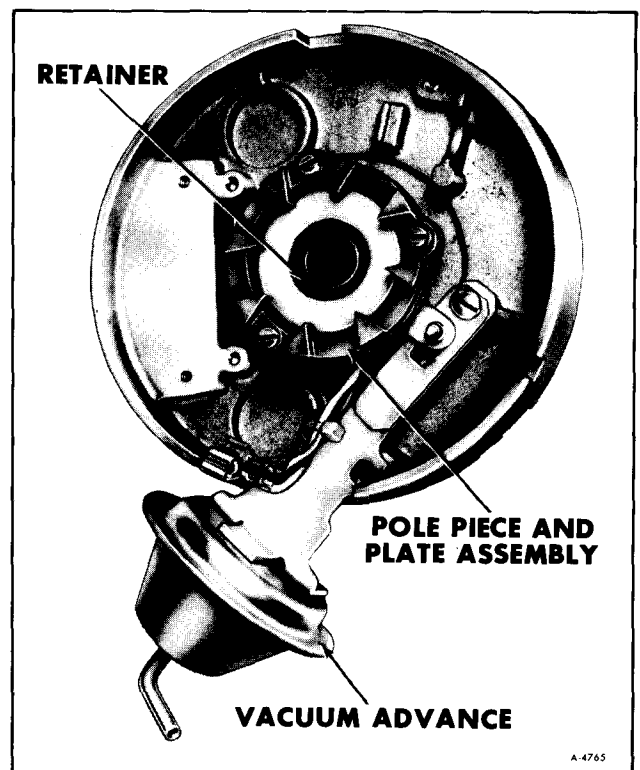

Figure 62—Pole Piece and Plate Assembly
10. Remove pole piece and plate assembly from housing. Do not remove three securing screws (figure 62).
NOTE: If necessary to adjust for proper clearance, loosen three screws on pole piece and plate assembly. Move pole piece teeth to provide even clearance. Tighten three screws (figure 62).